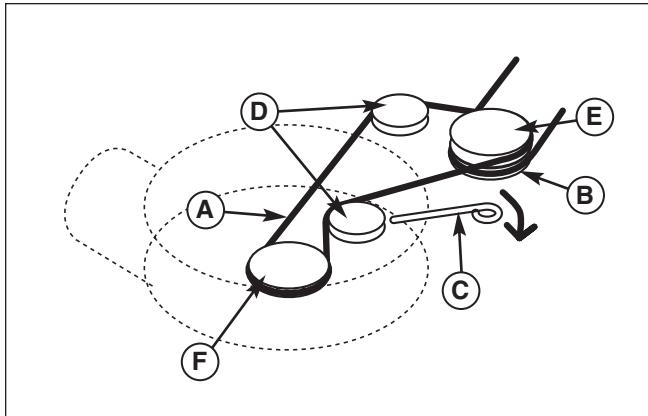
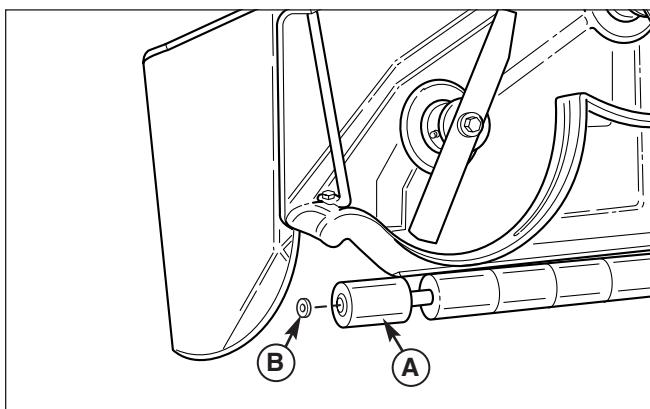

Figure 20. Turbo Belt Routing
Figure 21. Remove Right Side Pushnut and Roller
5. Attach the mower drive pulley to the mower deck drive pulley (B, Figure 20).
6. Pull back (away from deck) on belt tension lever (C).
7. Install the turbo drive belt on pulleys as shown and release the belt tension lever (C).
8. **Models With Rollers** - Remove and discard the pushnut (B, Figure 21) and roller (A) from the right side of mower deck as shown.